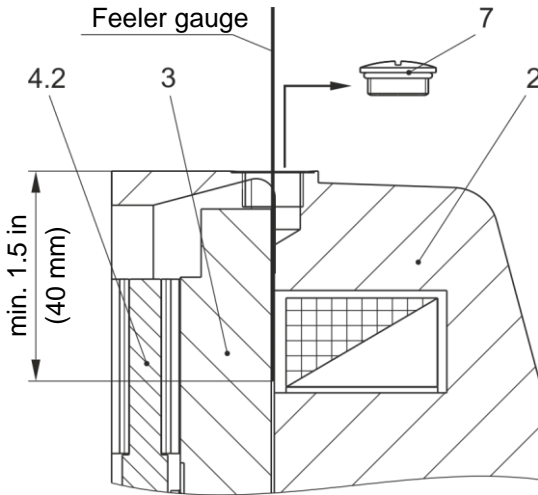

Fig. 10
The air gap can be inspected via a feeler gauge after removing the sealing plug / screw plug (7). The feeler gauge must be inserted at least 1.5 in (40 mm) deep (see Fig. 10), so that the distance between the armature disk (3) and the coil carrier (2) can be measured.